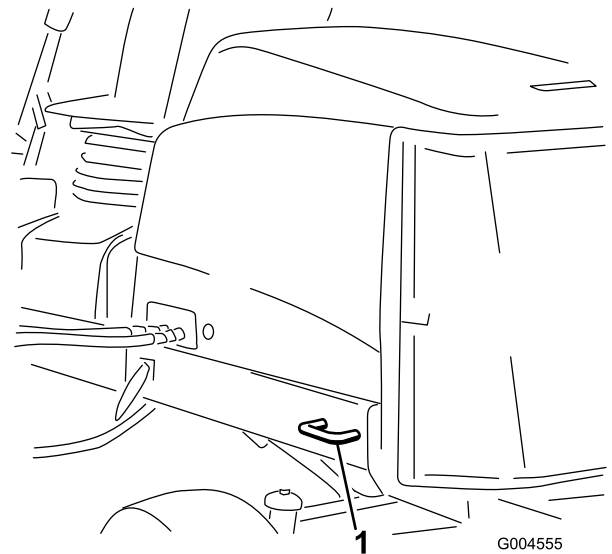

**Figure 57**
- Front—rectangular pad, under the axle tube, inside each front tire (Figure 57).